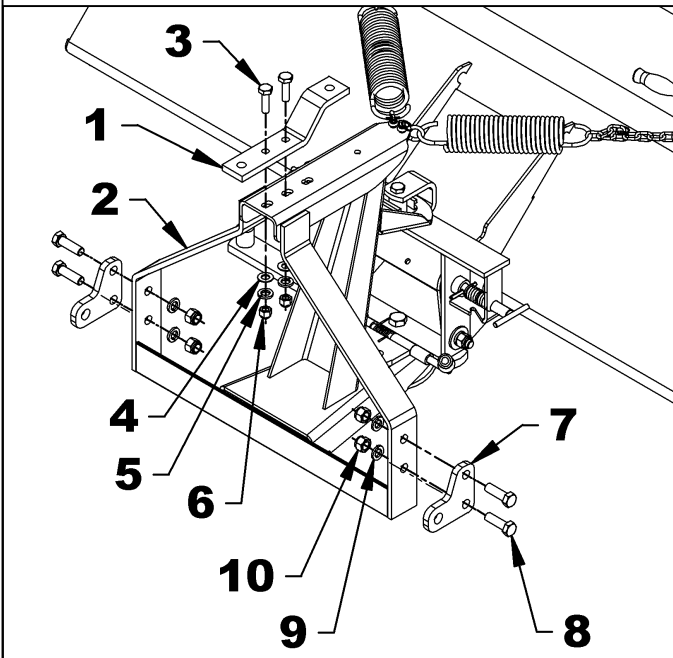

Figure 9B
- **If the A distance is equal or smaller than 4 1/4", proceed with the Installation option 2 - figures 9B-10B.**